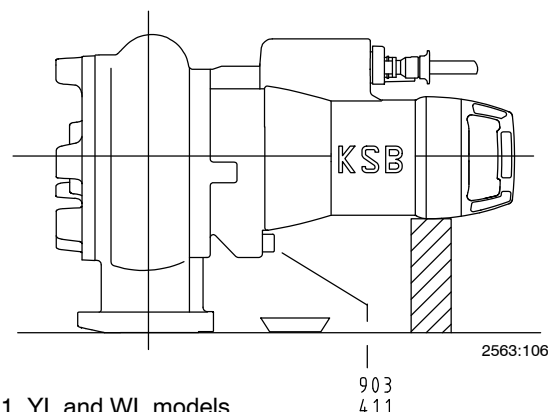

Fig. 1 YL and WL models
- Position the pump as shown in figs. 1 or 2, as applicable (YL and WL models).